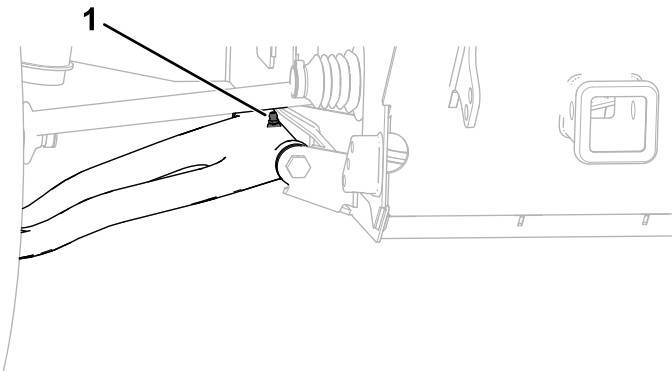

Figure 92
- **Front control arm pivots (2);** refer to Figure 92